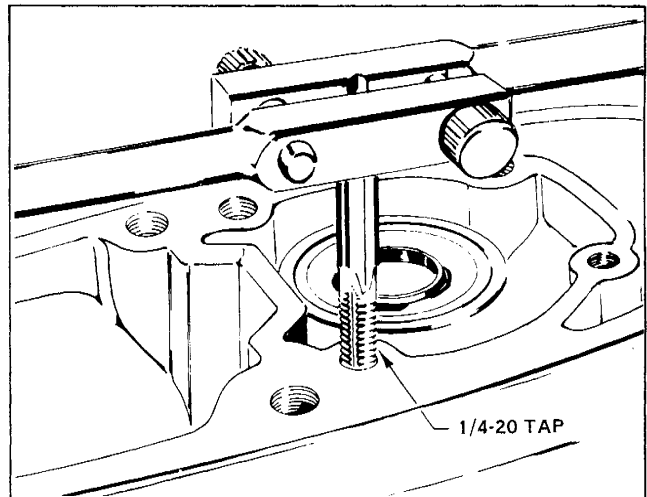

FIGURE 4
7. Remove impeller housing and plate from gearcase and tap the drilled hole 1/4-20. See Figure 4.